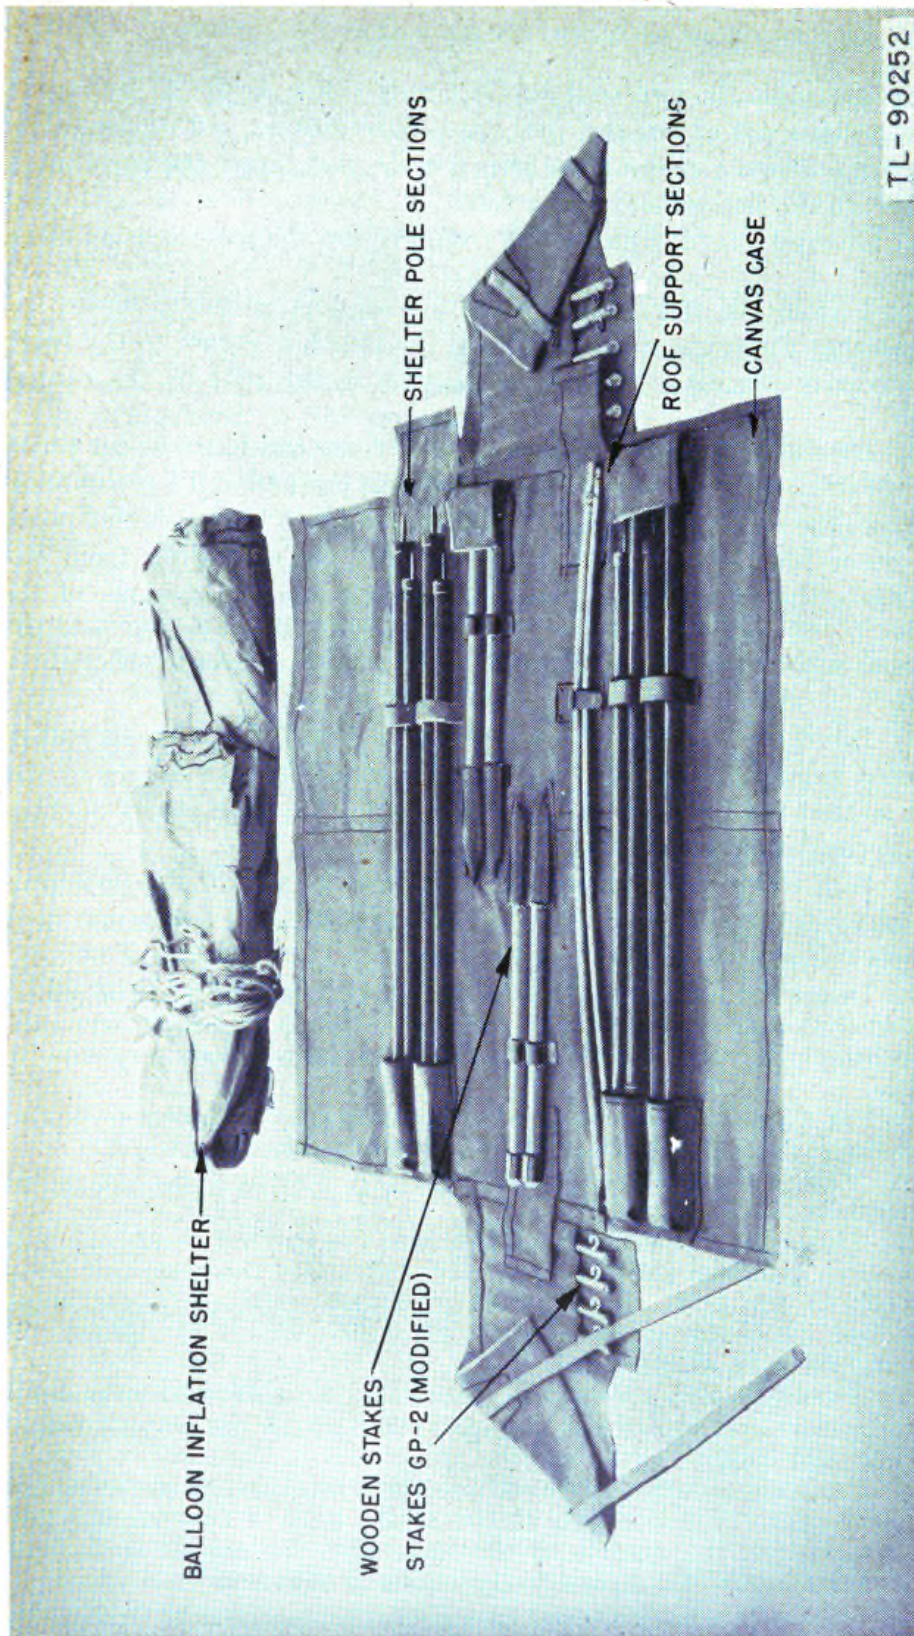

FIGURE 3. Portable balloon inflation shelter, unfolded.
c. UNPACKING AND ASSEMBLING PORTABLE BALLOON INFLATION SHELTER. (1) Carry the balloon inflation shelter in its folded form to the desired location (fig. 3).
(2) Unbuckle the four canvas straps on the folded shelter case, and unfold the large side flaps.
(3) Unbuckle the two canvas straps now accessible, and unfold the end flaps of the case.